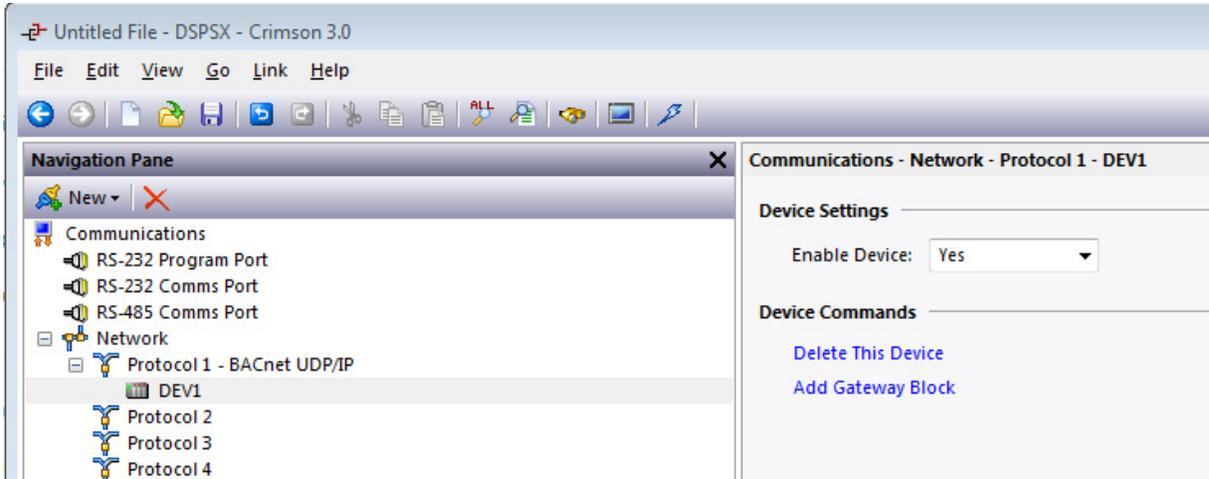

Figure 13.
6. Referring to Figure 13, go to the Navigation Pane and click on the desired network device below the port; *DEV1* in this example. The associated popup appears; Communications - Network - Protocol 1 - DEV1 in this example.